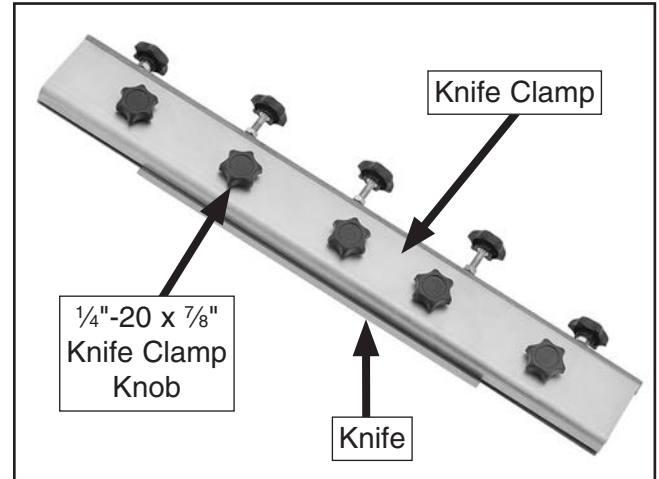

Figure 21. Knife clamped to the slide bar.
- When you are satisfied that the knife extends beyond the slide bar the same amount along its length and that the supporting adjustment knobs are all making even contact with the back of the knife, re-tighten the jam nuts and attach the knife clamp to the slide bar with (5) $\frac{1}{4}$ "-20 x $\frac{7}{8}$ " knife clamp knobs, as shown in **Figure 21**.